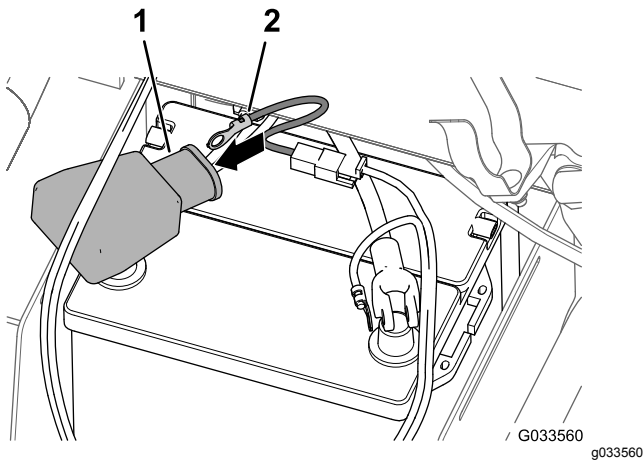

Figure 29
- Align the ring terminal of the fusible link (sprayer wire harness) through the wide battery cover as shown in Figure 29.